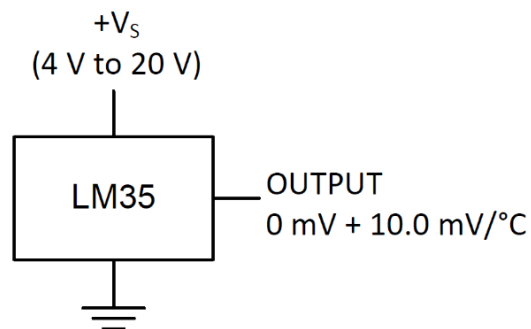

Figure A3 (c) / Rajah A3 (c)
- (c) LM35 shown in Figure A3 (c) is used as analog input for ADC in PIC18. This 12-bit ADC is used with settings of  $V_{ref-} = 0\text{ V}$  and  $V_{ref+} = 4.096\text{ V}$ . Based on the information given, calculate ADC output,  $D_{out}$  if output from LM35 is  $15^{\circ}\text{C}$  and  $45^{\circ}\text{C}$ .